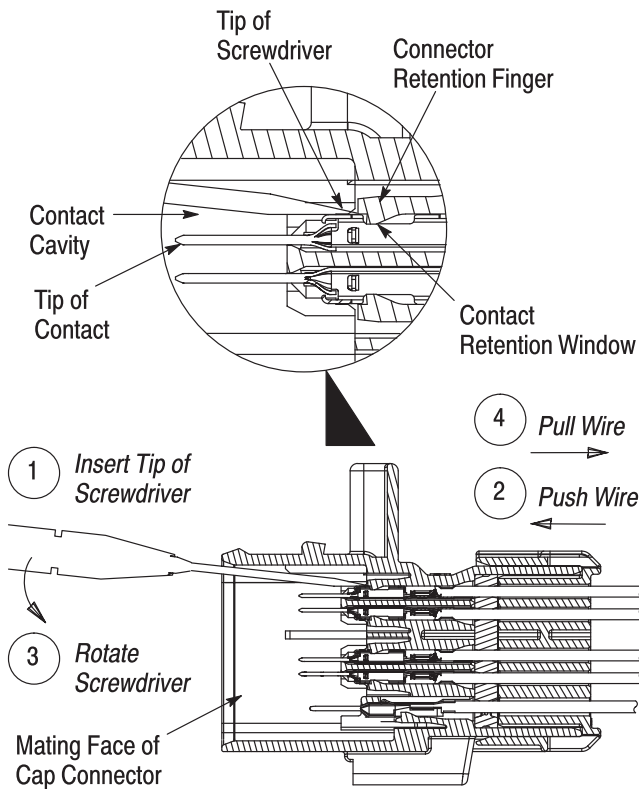
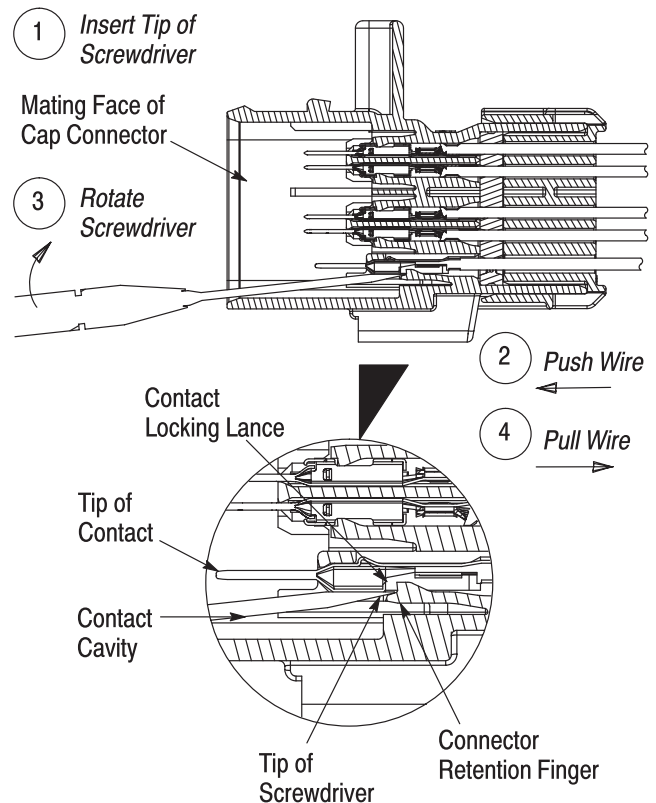

Figure 12
Figure 13
2. At the mating face of the cap connector, insert the tip of a flat blade screwdriver into the contact cavity of the contact to be removed until it stops. For 0.64mm contacts, refer to Figure 12, and for 1.5mm contacts, refer to Figure 13.